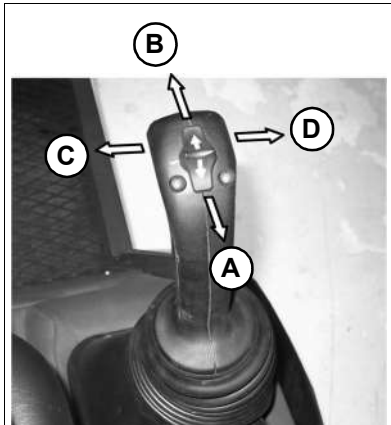
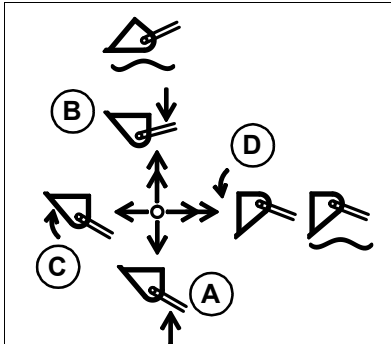

Figure 37 – Multi-purpose Joystick
Figure 38 – Joystick Function Decal
- A. Move the joystick rearward (A, *Fig. 37, Fig. 38*) to raise the lift arm.
- B. Move the joystick forward (B) to lower the lift arm.